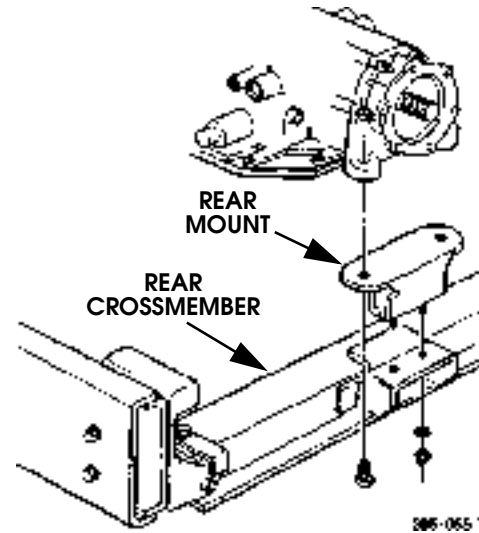

Figure 5-64: Rear Mount Replacement
3. Remove rear mount from crossmember (Figure 5-64).